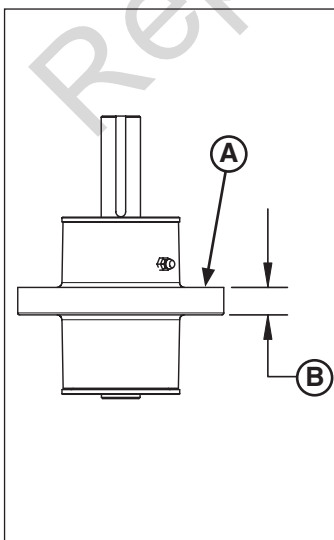

Figure 2. Measuring the Spindle
1. Measure the mounting ring (**A**, **Figure 2**) of the 5061033 spindle. A mounting ring that measures (**B**) approximately 1/2" (1,27 cm), may require a 5412403A spindle spacer ring when installed in the mower deck. A mounting ring that measures approximately 11/16" (1,75 cm) does not require a spindle spacer ring.